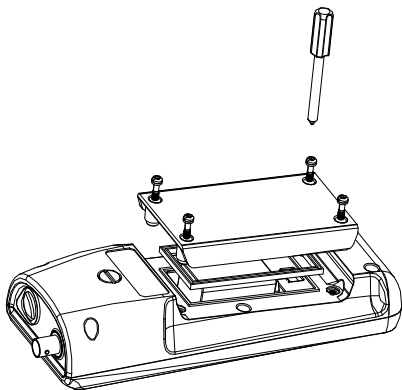

Figure 1: Battery compartment
1. Use a screw driver to remove the four screws and battery cover to expose the battery compartment. (Figure 1.)